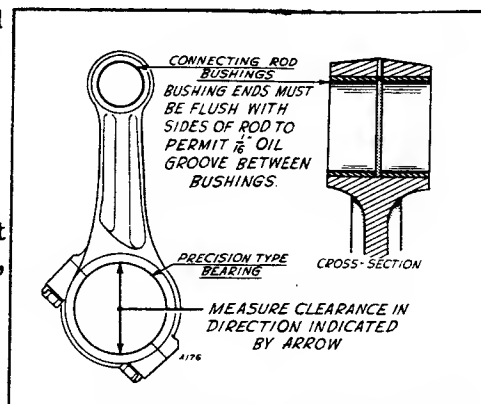

Fig. 22 Connecting Rod Bearings
**CONNECTING RODS.** - The forged steel connecting rods have precision type bearing inserts easily replaceable. Do not dress the rod cap to compensate for any bearing wear; replace with new bearings. Correct bearing clearance to the crankshaft journal is 0.001 inch to 0.003 inch, and should be measured at a point in line with the length of the rod, Fig. 22. If new piston pin bushings are installed in the upper end of the rod, the bushings must be pressed in only flush with the sides of the rod, to permit a 1/16 inch oil groove at the center. Finish ream to 1.879 - 1.882 inch for a new piston pin, or to give a clearance of 0.0002" to 0.0007" if a used pin is continued in service.